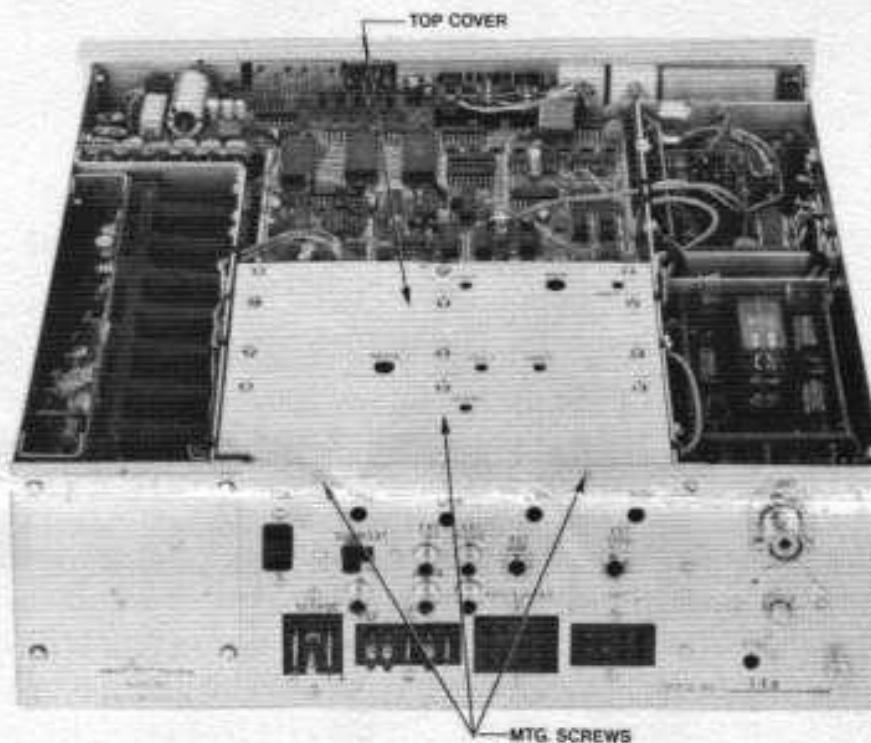
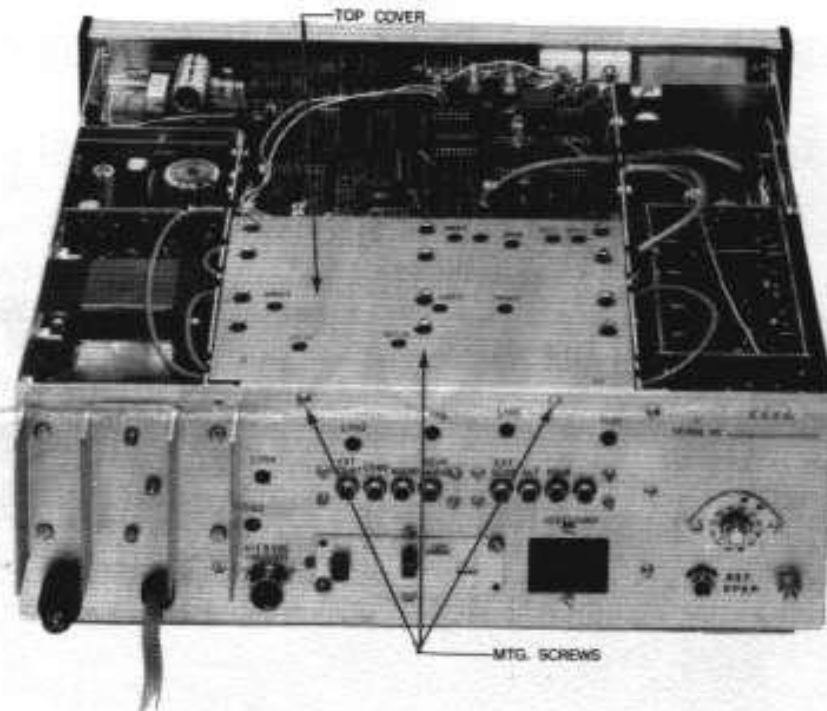

figure 1A - TR7 Top Cover (main card cage)
figure 1B - R7 Top Cover (main card cage)
3. Remove the top cover from the main card cage by removing 14 screws (12 on top and 2 in the rear). Refer to figure 1A for TR7 Top Cover, and to figure 1B for the R7 Top Cover.